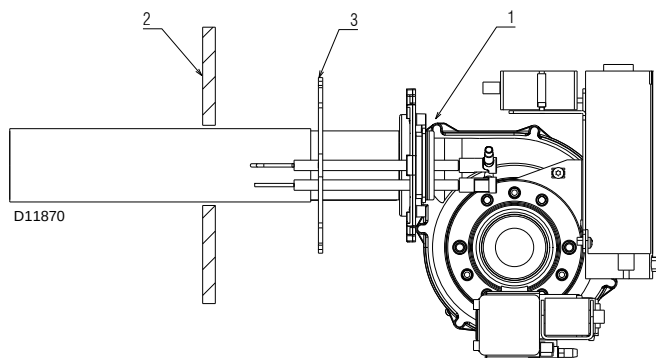

Fig. 5
- fix the burner 1)(Fig. 5) to the boiler door 2) using the 4 screws and (if necessary) the 4 nuts supplied to the standard equipment, interposing the insulating gasket 3).